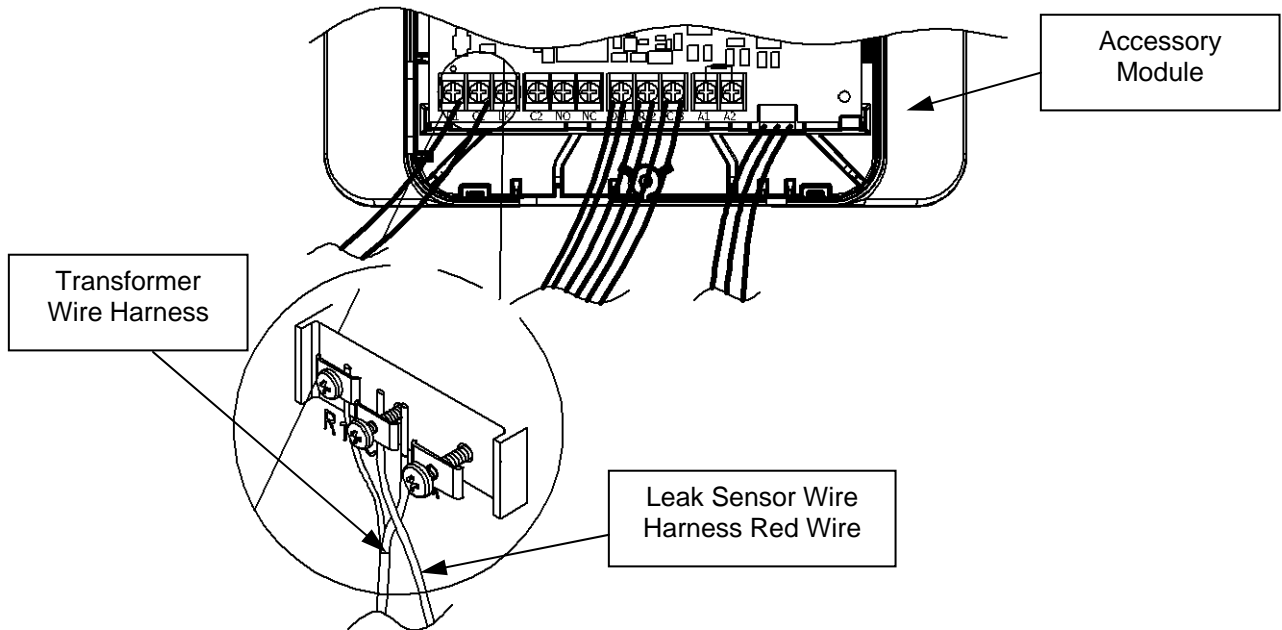

Figure 58
Step 7: Insert the red wire, from the Leak Sensor wire harness, under the screw labeled "C1." This is shown in Figure 58. Ensure that the wire from the Transformer wire harness at this location is retained under this screw.